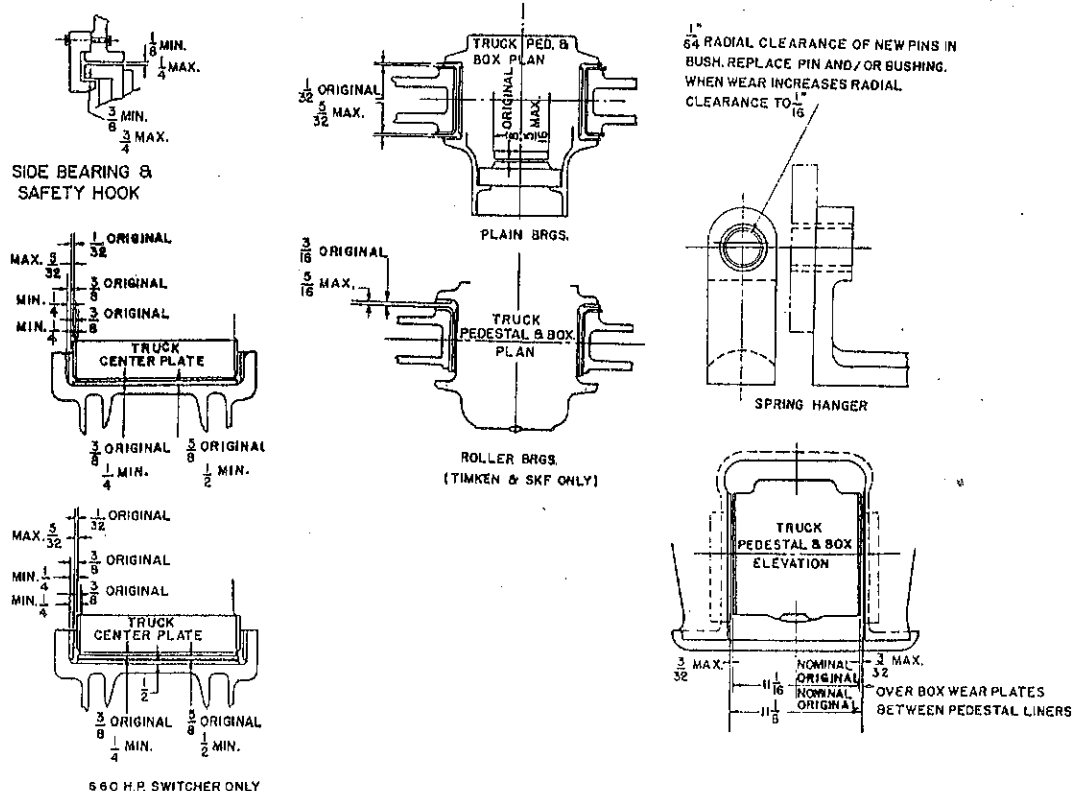

Fig. 38 - CLEARANCES AND WEAR LIMITS
1. The following items should be inspected and compared periodically with Fig. 38 for clearances and wear limits.